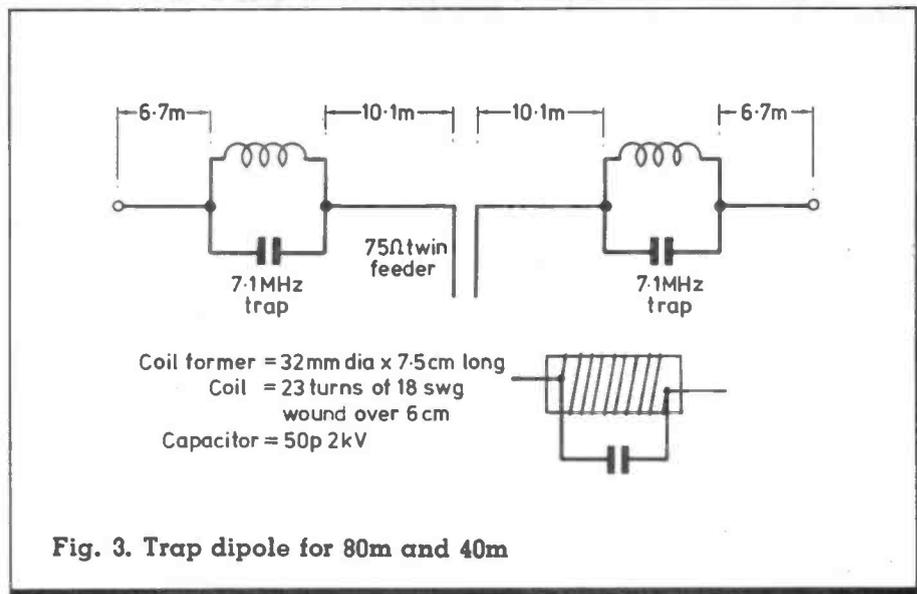

Fig. 3. Trap dipole for 80m and 40m
After some time of operation on 80m it was decided to see how a low dipole would work on 40m DX. As 80m operation was still required a W3DZZ type trap dipole antenna was constructed from data (1) as in Fig. 3. The coils were wound on off-cuts of plastic drainpipe, adjusted to resonance on 7.1MHz with a grid dip oscillator and coated with varnish for weather protection.
8. On Fig. 3 (PCB layout) the TX/RX switch is shown wrongly wired — points 'B' & 'E' should be on the same side of the switch, not 'B' & 'D' as shown.